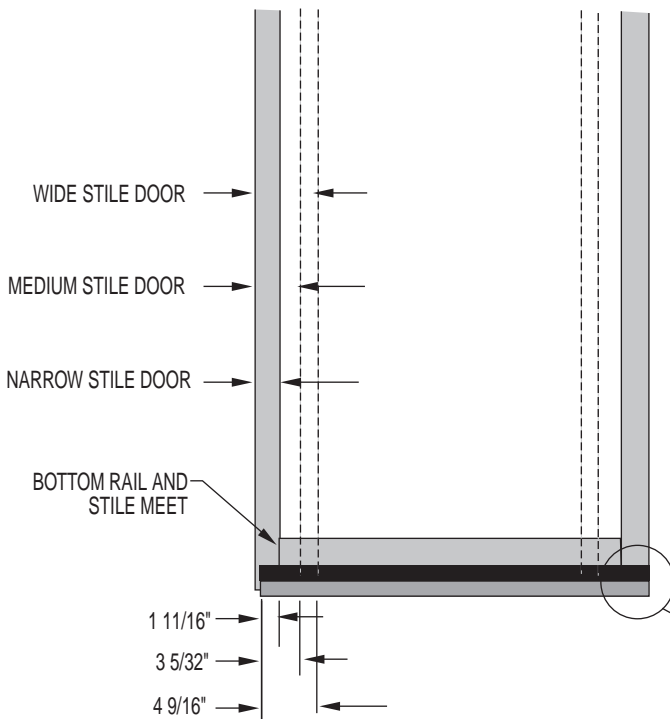
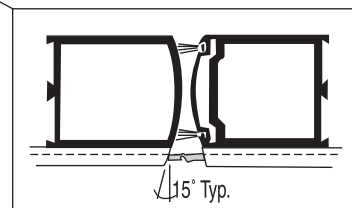

Figure 3
Figure 4
1. Determine door type, mark placement as shown in (fig. 3). Place weather-strip on door and mark for 15 degrees cut as shown in (fig. 4). Cut weather strip.
3. Install silicone strip allowing over lap as shown in (fig. 4) and crimp pivot end.